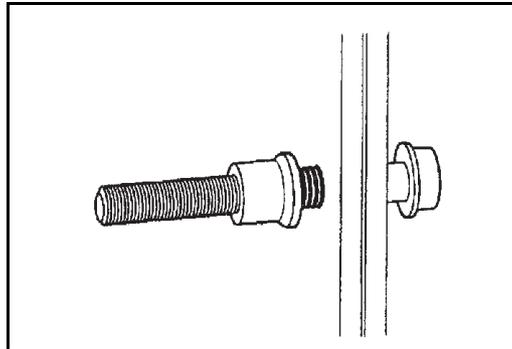

Figure 2.9 Place Collar Over Fastener Pintail 01_0019
2. Place the collar over the fastener pintail (Figure 2.9)